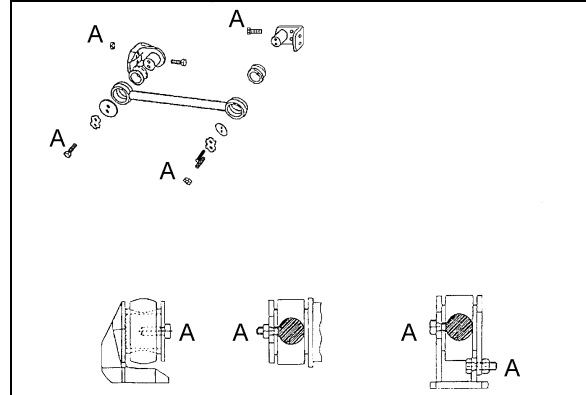

FIGURE 8: RADIUS ROD INSTALLATION 16028
1. Lightly spray the radius rod support with water. Place the radius rod end over the radius rod support (Fig. 8).